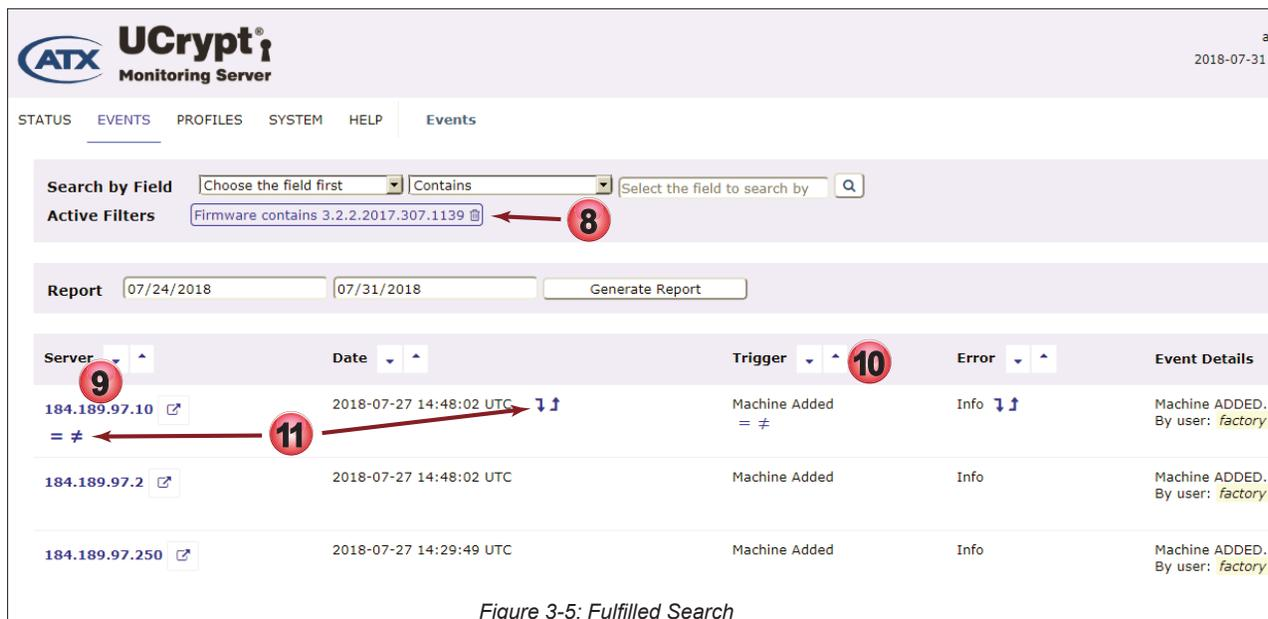

Figure 3-5: Fulfilled Search
8. An **Active Filter** is created, Figure 3-5, and multiple filters may be created in the same way to further refine the selection. Filters may be deleted by clicking anywhere on the filter. A **Trash Can**  icon is on the filter to remind you of this.